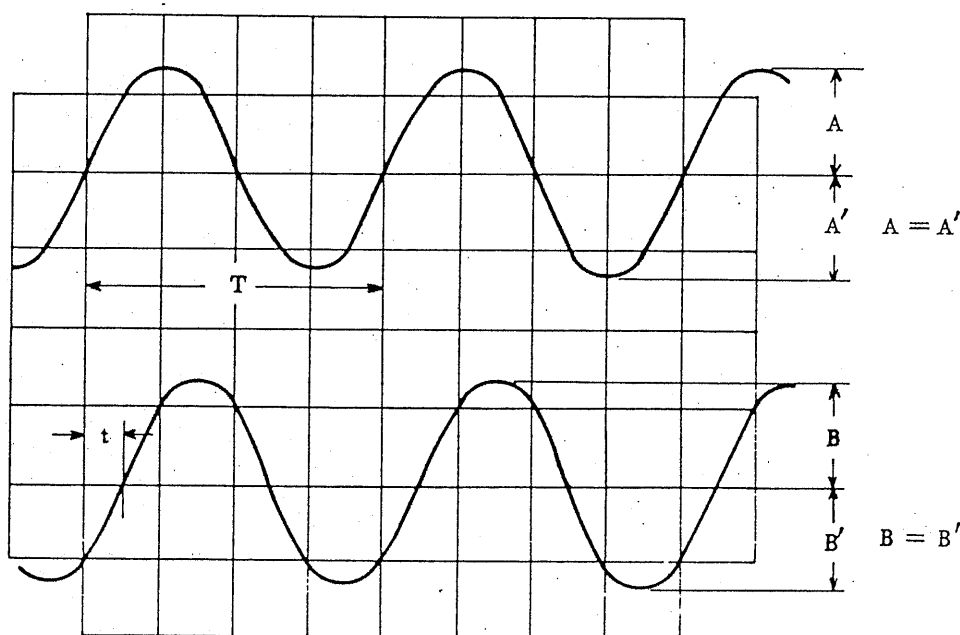

Fig. 18
Set the MODE switch in the DUAL state (10), and connect to CH1 the signal to be used for reference and to CH2 the signal to be measured. So adjust the oscilloscope that it displays signals as shown in Fig. 18.